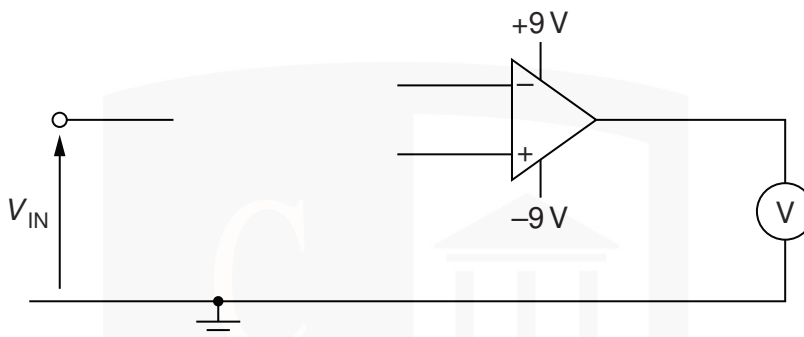

Fig. 9.2
- (b) An inverting amplifier, incorporating an operational amplifier (op-amp), uses a high-resistance voltmeter to display the output. A partially completed circuit for the amplifier is shown in Fig. 9.2.
- (i) On Fig. 9.2,
- (ii) Suggest appropriate values for the resistors you have shown in Fig. 9.2. Label the resistors in Fig. 9.2 with these values. [2]